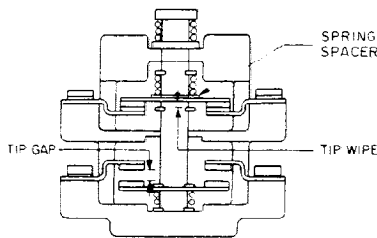
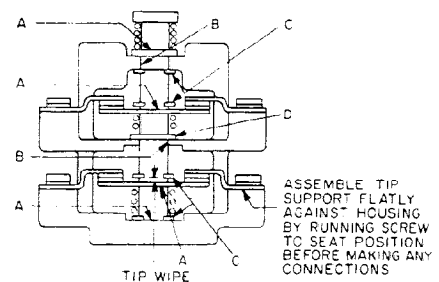

Fig. 13. Interlock block with one set of normally open contacts and one set of normally closed contacts in de-energized position of contactor
Fig. 15. Interlock block with normally open contacts in energized position of contactor
These interlocks use a contact block having internal parts which can be rearranged to give different contact arrangements. Should this be necessary the parts should be reassembled in accordance with Figs. 13, 14, or 15.
Spring ends must not protrude into holes (A), slots (B), or keys (C), which serve as guides for operating arm (see Fig. 15).
Contact blocks with circuits as shown in Fig. 15 require a spring spacer (D) to assure that the center spring is properly in place. Because of the circuit rearrangement feature, a spring spacer is supplied with all other two circuit contact blocks, as shown in Figs. 13 and 14.
a. With the armature resting against the armature stop, there should be a minimum clearance of 3/32 inch between the interlock tripping arm and the interlock plunger (see Fig. 13).
b. With the armature dropped back against the latch, the gap on the normally closed contacts should be approximately 1/16 inch (see Fig. 15).